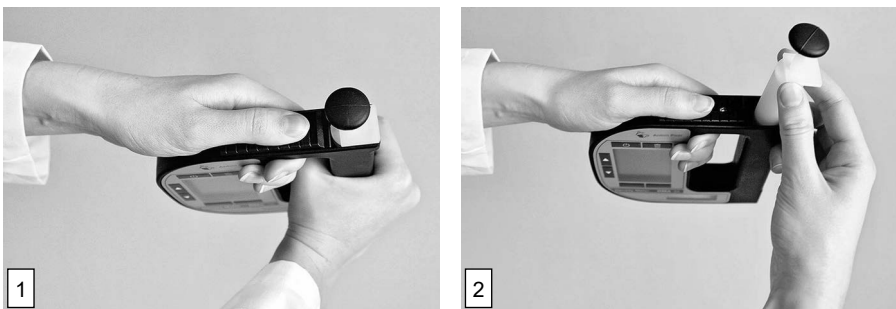

Fig. 10: Removing the pump
- Open the pump lock (1, fig. 10) and remove the pump (2, fig. 10).